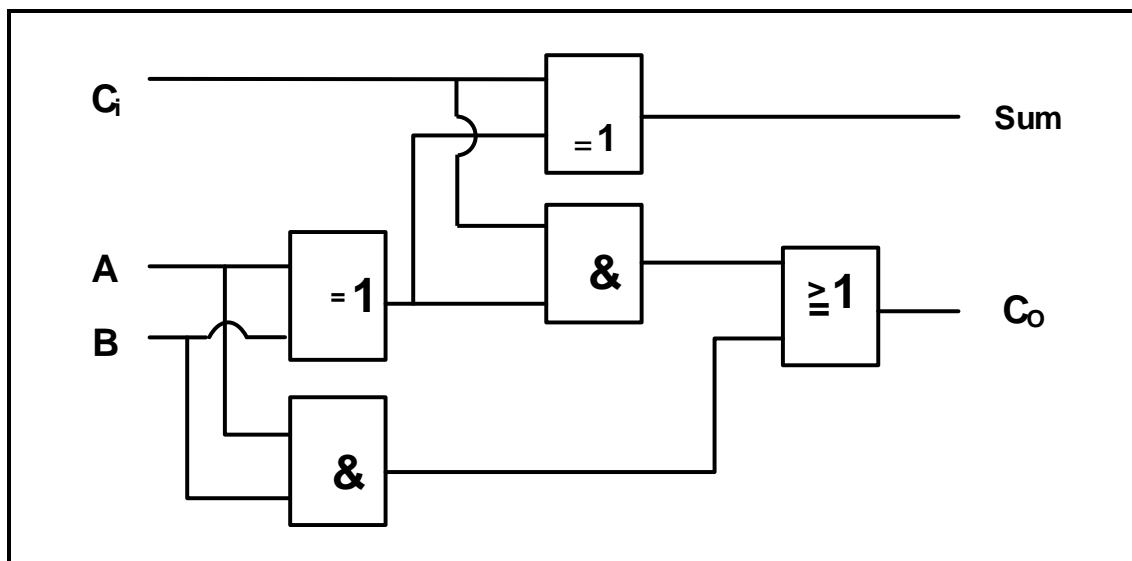

FIGURE 4.4: FULL ADDER
- 4.4 Study FIGURE 4.4 below of the logic circuit of a full adder using two half-adders and an OR-gate. Use the table on ANSWER SHEET 4.4 to complete the truth table.